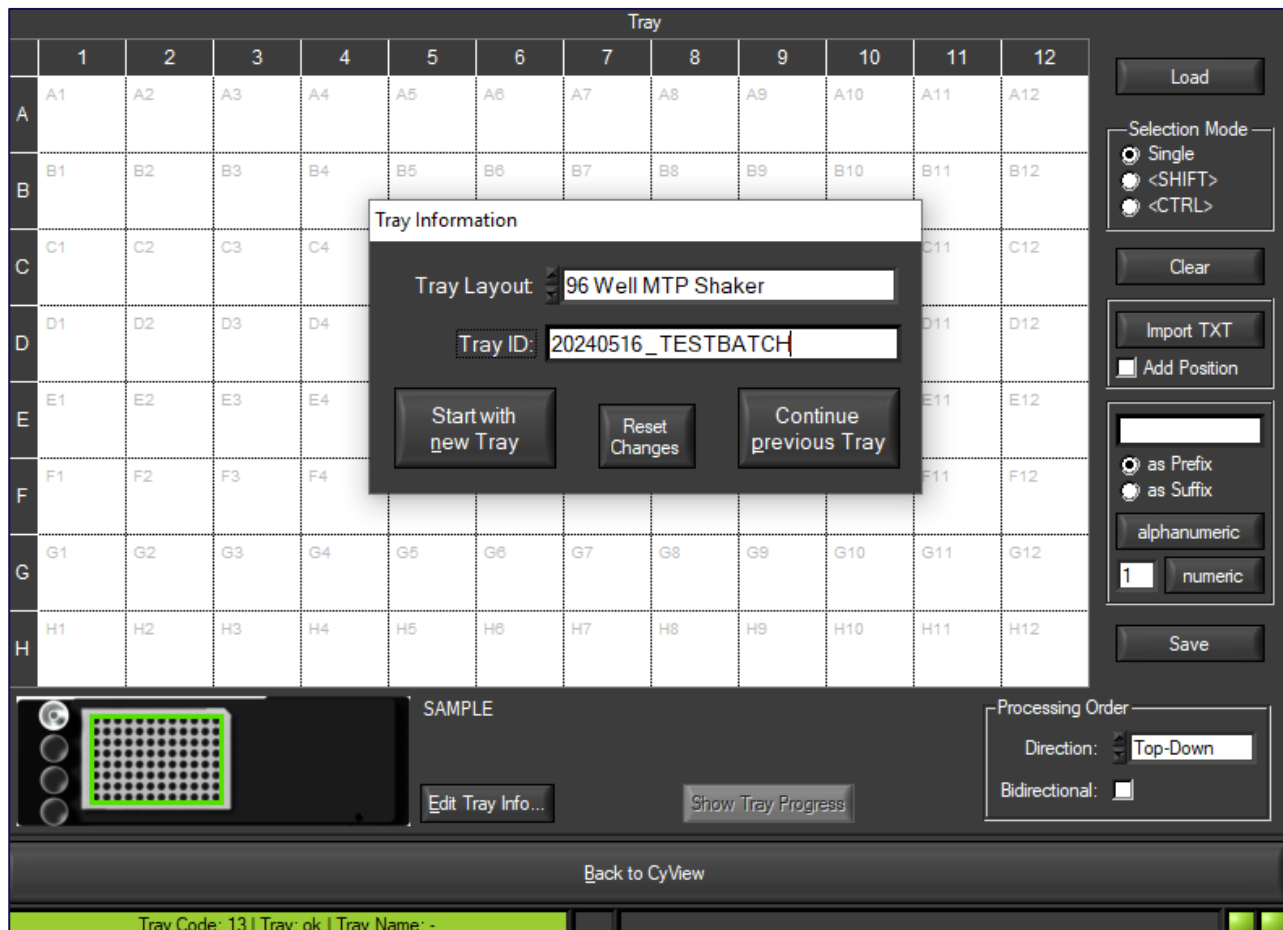

Figure 20. Selecting the disc layout
6. A window will now open (see Figure 20). Here you have the option of assigning a *tray ID* (batch number) (e.g. the analysis ID). Only use alphanumeric characters (A-Z, a-z, 0-9) and the underscore "_" for the tray ID (e.g. 20250213_TESTBATCH), as other characters and special characters are not recognised and will be deleted when the folder is created.